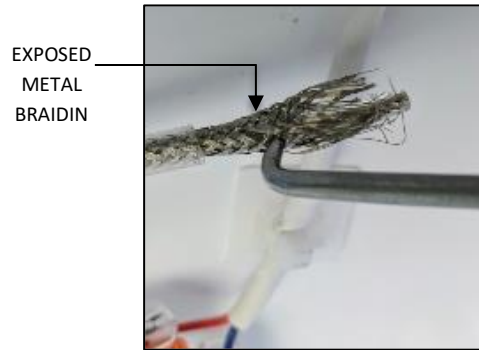
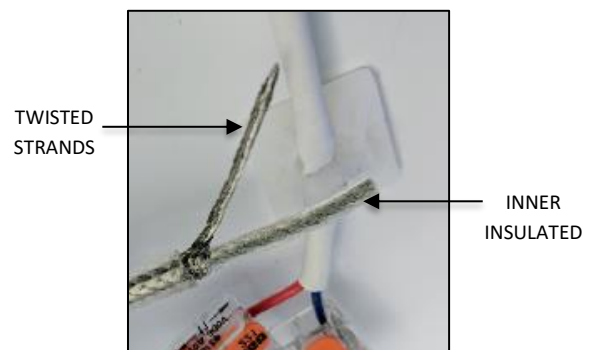

FIG. 20
FIG. 21
2. Using a small pointed object, begin unweaving the exposed metal braiding as shown in FIG. 20 below. Position the unwoven metal strands on one side of the inner insulated wire and twist the individual strands together as shown in FIG. 21 below.